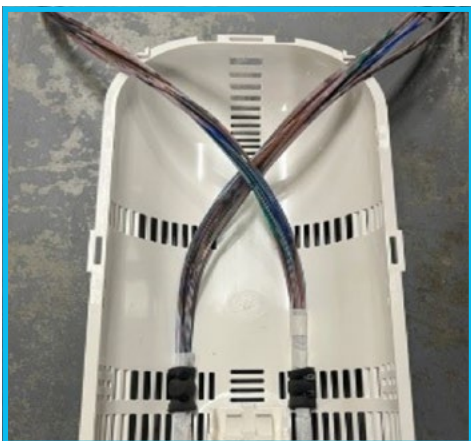

Figure 36
3. Twist the fibres at the top of the basket to reverse the direction [figure 36].